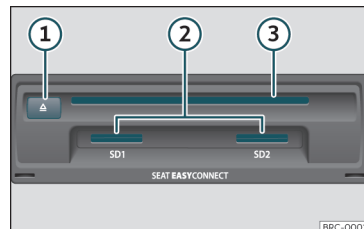

Fig. 170 Slots for data storage devices in the glove compartment.
- Push the CD or DVD into the DVD slot >>> **Fig. 170** ③ to the point where it is drawn in automatically.
Insert the compatible memory card, beveled edge first and with the label face up (contacts face down), into slot >>> **Fig. 170** 2, until properly inserted.